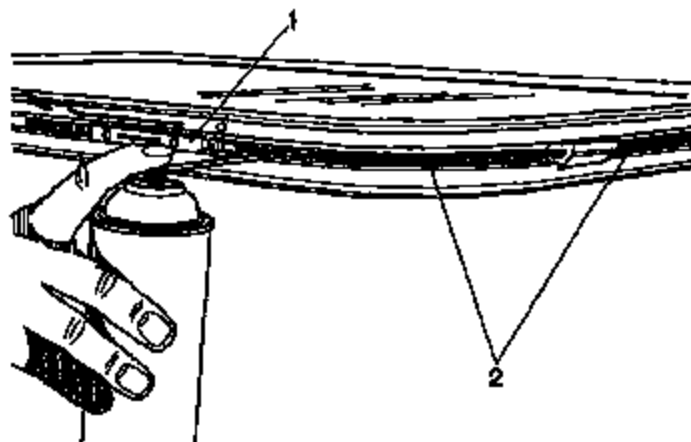

Figure 1-2 Applying Lithium Grease to Cable
5. Apply white lithium grease to the cable (2). See Figure 1-2.